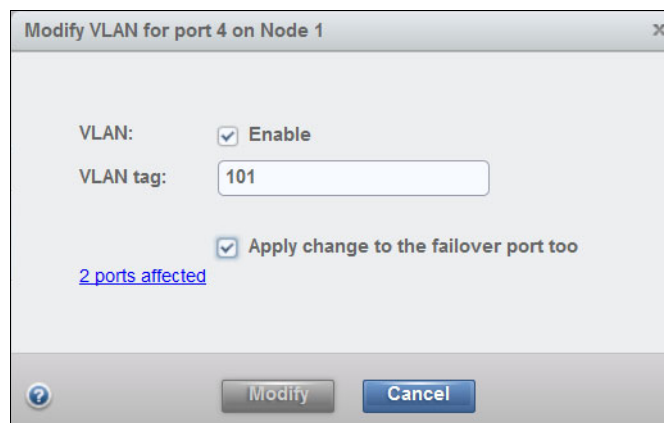

Figure 7-64 VLAN tag configuration
3. Select **Enable** and enter a VLAN tag, as shown in Figure 7-64. The same VLAN tag must be configured in the Brocade switch. In this example, it is 101.